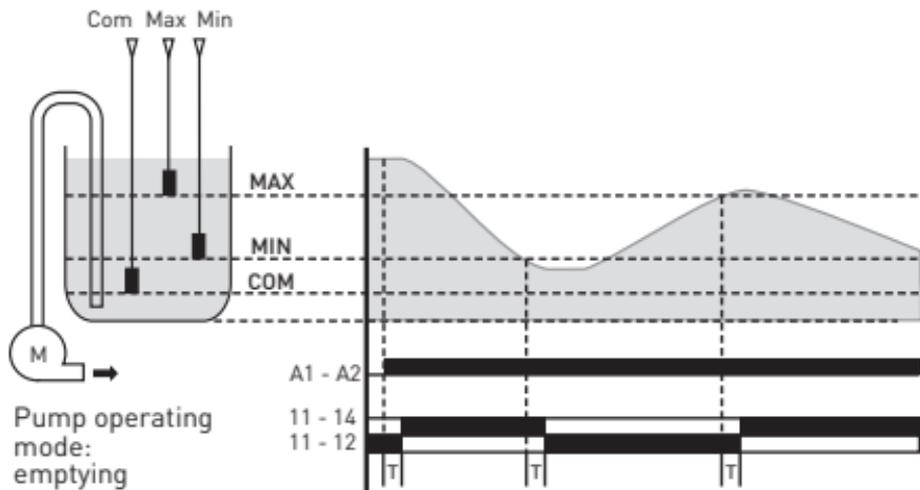

Fig. 7
Emptying, 3 contacts (electrodes), refer to Figure 7. Connect every sensor wire directly to "Com", "Max" and "Min" contacts. Liquid level is over the maximum (MAX), the contacts switch to position 11-14 with the time delay (T), the pump runs. When the minimum level (MIN) is reached, the relay switches off with the time delay (T), the contacts switch to position 11-12, the pump stops. The relay is in OFF position until the liquid level is over the maximum (MAX). When the relay switches on with the time delay (T), the contacts switch to position 11-14, pump starts.